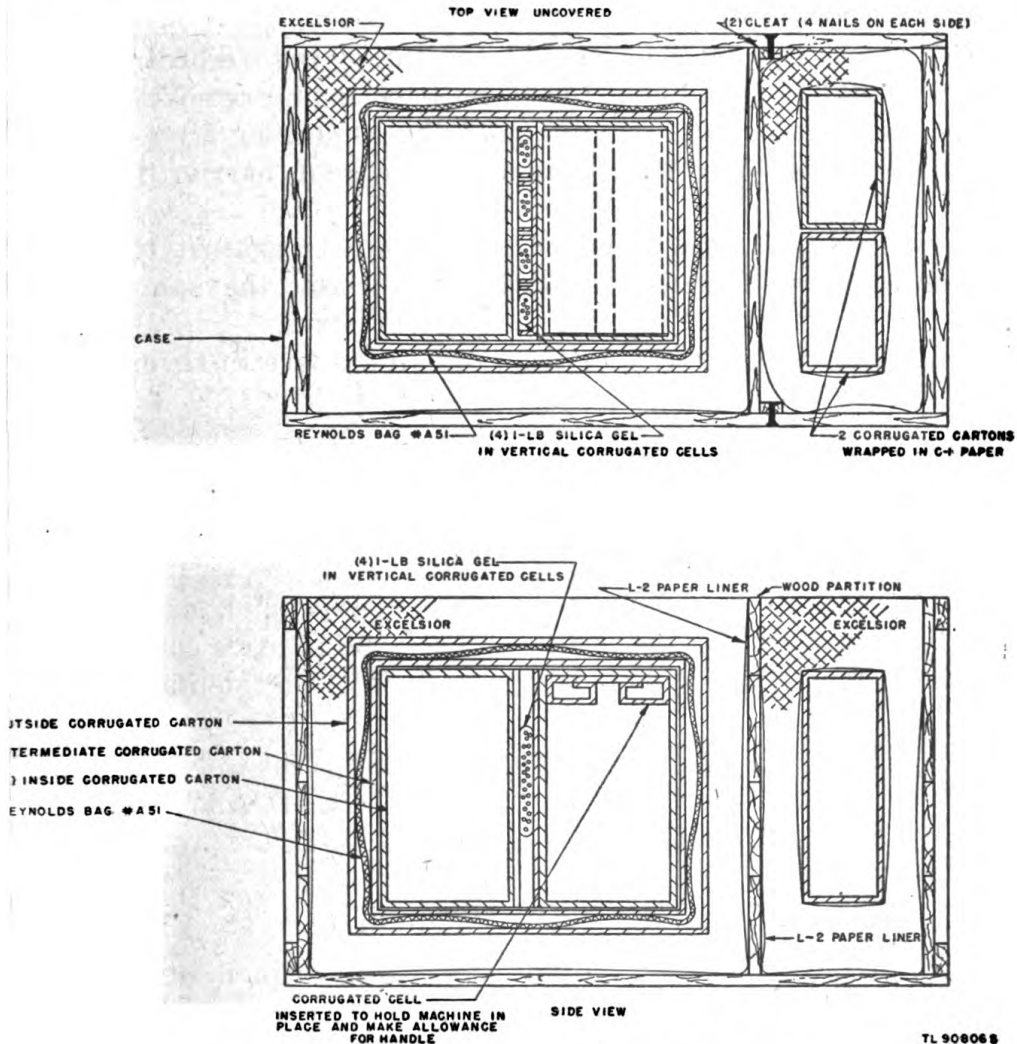

Figure 10. Cutaway view of export package.
a. UNPACKING (fig. 10). (1) Cut the steel straps.
(2) Remove all nails from the top boards of the wooden crate. Remove boards and excelsior.
(3) Slit the moistureproof barrier down the middle and ends, and fold back.
(4) Open the cardboard carton containing the set, spare parts boxes, etc.
(5) Lift out the carton containing the set and open carton carefully. Lift out the set and place on dry place. Blow excelsior off carrying case preparatory to opening.
(6) Lift out the two spare parts boxes and store in a dry place.
(7) Feel through the remaining excelsior for articles that may have been inadvertently dropped into crates.
(8) Save all material in original wooden crate for possible later repacking.
(9) Open the wooden crate containing the recording film. Cut a small hole in the moistureproof barrier and remove one box of recording tape at a time. Store the remaining boxes in the original wooden box using the moistureproof barrier for protection.